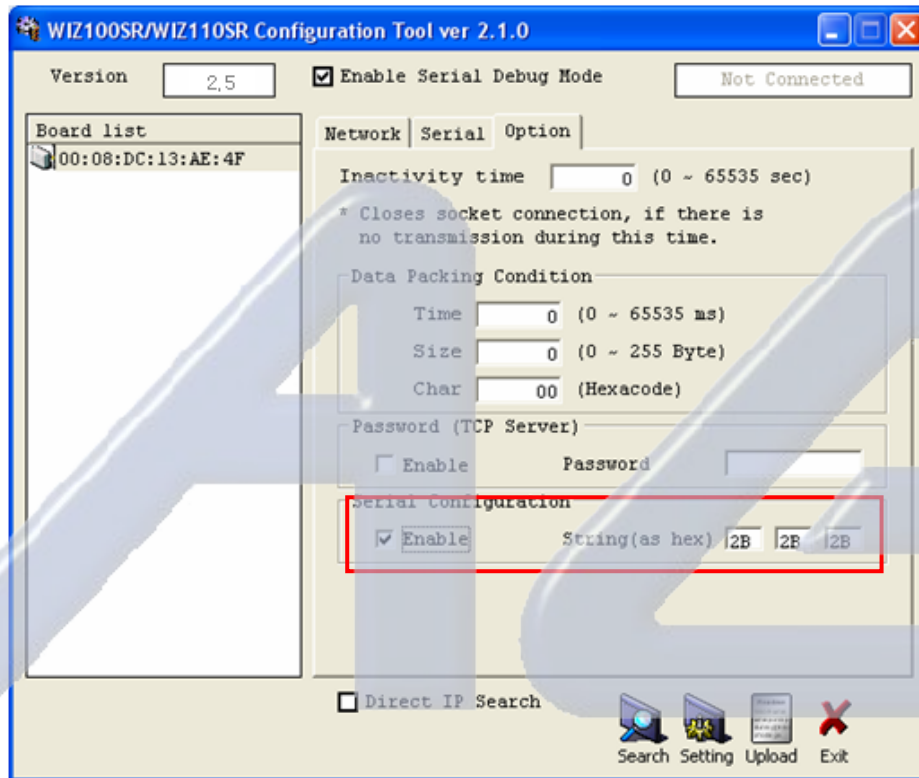

Figure 14. Serial Configuration Enable Setting
- ② Default Serial configuration status of module is 'disable'. So click enable check box of Serial Configuration and click "setting" button.
- ③ Input any three characters for the serial command mode trigger. (in above Figure 14, 2B, 2B, 2B are input)
- ④ If you finish the setting, you can test as below procedure. This procedure is 'checking module IP and change to other IP address'